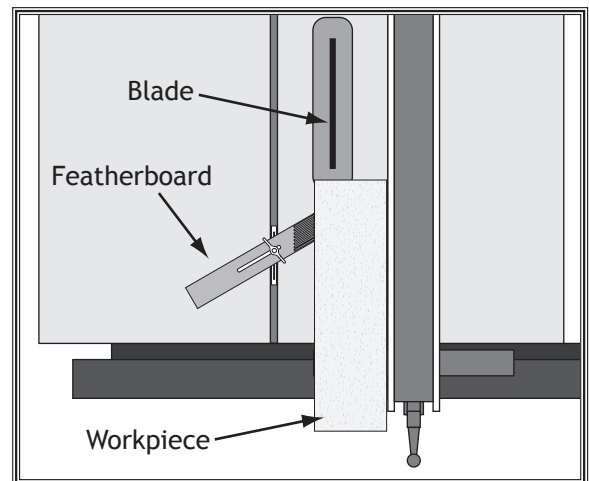

Figure 77. Featherboard installed in miter slot and supporting workpiece for ripping cut.
3. Slide the featherboard miter bar into the miter slot, making sure the fingers slant toward the blade, as shown in **Figure 77**.